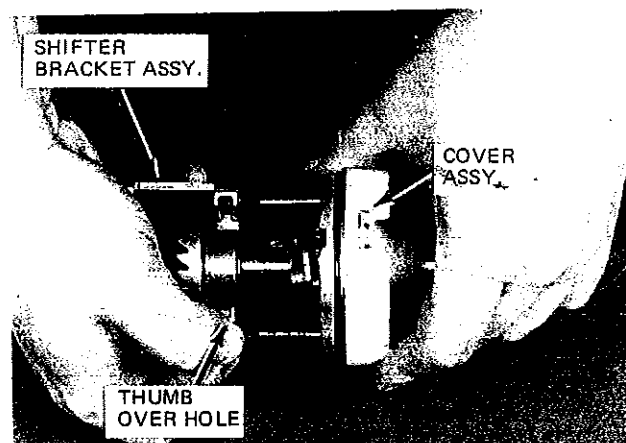

Figure 7. Pull shifter bracket away from cover.
G. Pull the shifter bracket assembly and cover assembly apart while holding a thumb or finger over the detent hole to retain the detent and detent spring (Figure 7).